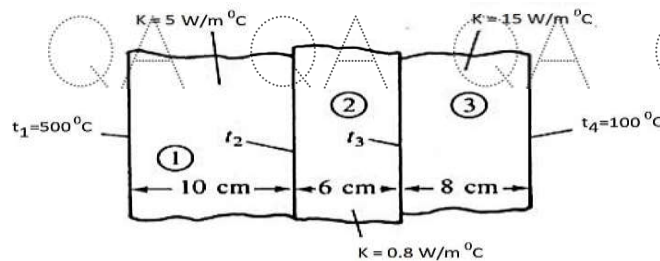

Figure 5
8. For the composite wall shown in the figure 5 determine the interface temperatures considering three elements. [10]